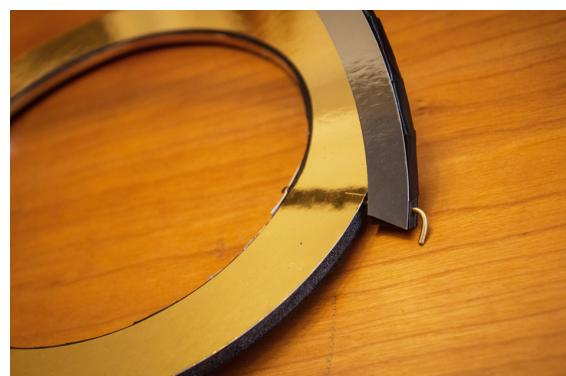

Figure 7-17 Detail of the elevation arc pivot
3. Pierce the same wire through the edge of the azimuth disk, creating a pivot. Bend the wire sharply up at the outside of the elevation ring to secure as in Figure 7-17.